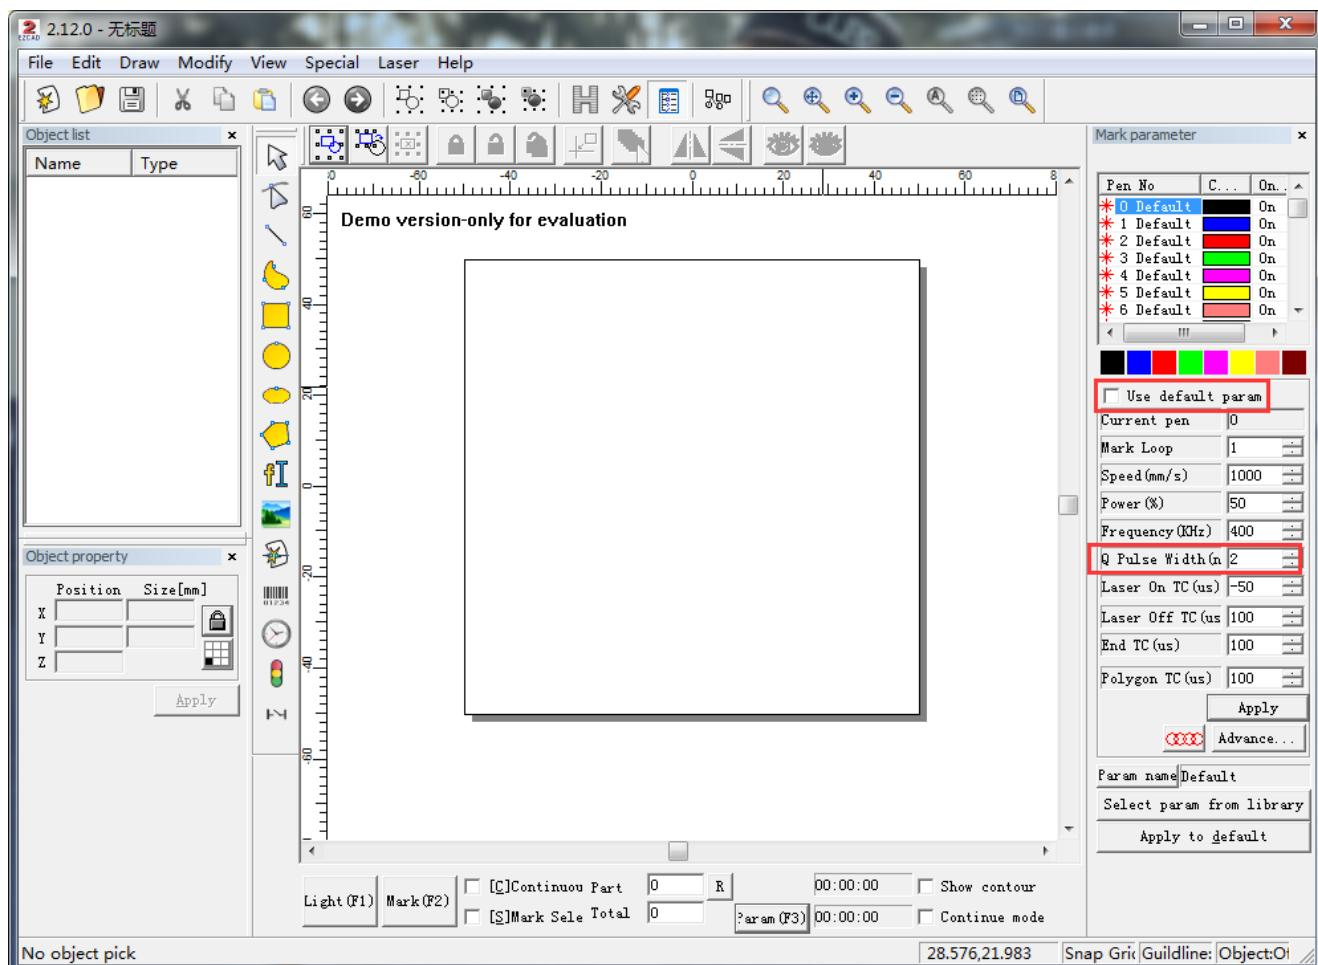

Figure 4
(5) Back to the main interface. Uncheck Use Default param and adjust pilse width of YDFLP-M Series Laser in Q Pulse Width, as shown in Figure 4.